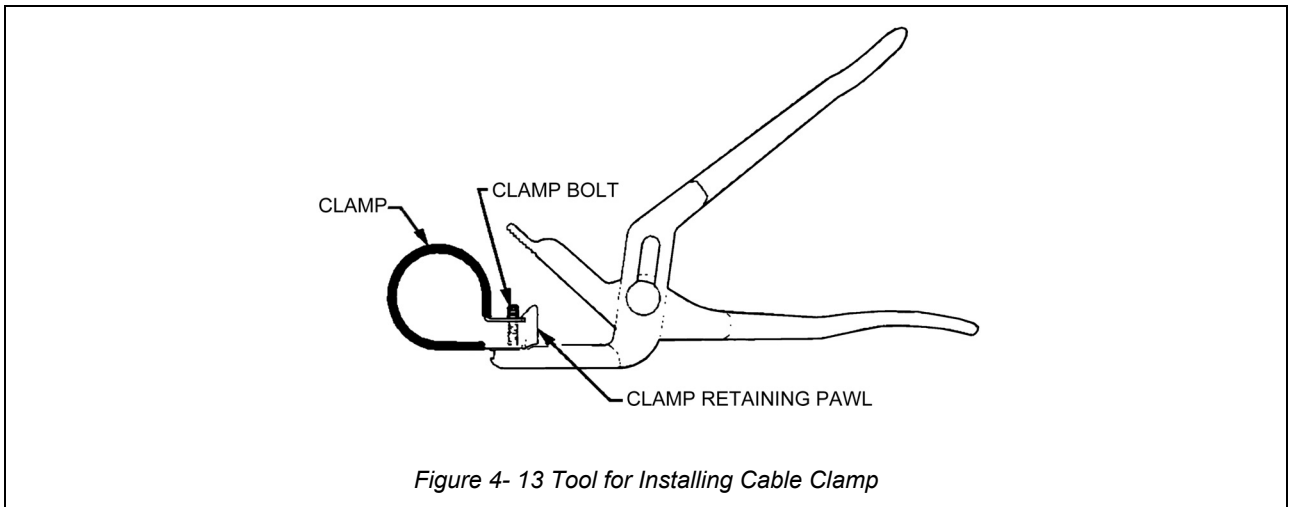

Figure 4- 13 Tool for Installing Cable Clamp
58. Use AN735 clamps without cushions for clamping to tubular structure. The clamps must fit tightly but should not deform when locked in place. Attach wire bundle in MS21919 cable clamp to the AN735 clamp with AN hardware as shown in Figure 4–14.